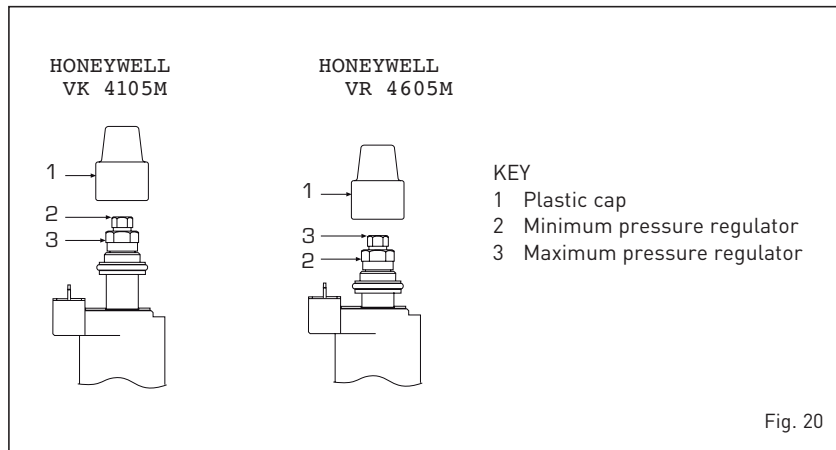

Fig. 20
4.1.1 Settings valve pressures (fig. 20)